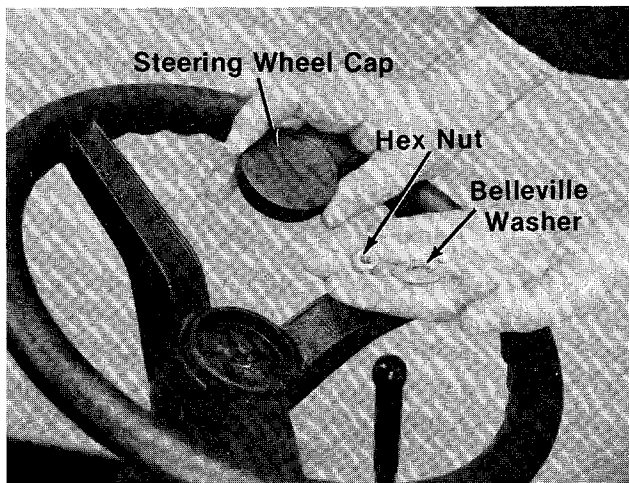

FIGURE 5. STEERING WHEEL ASSEMBLY
8. Place the steering wheel on the tubing assembly and fasten with belleville washer and hex nut. See figure 5.
9. Place the steering wheel cap on by hand. See figure 5.